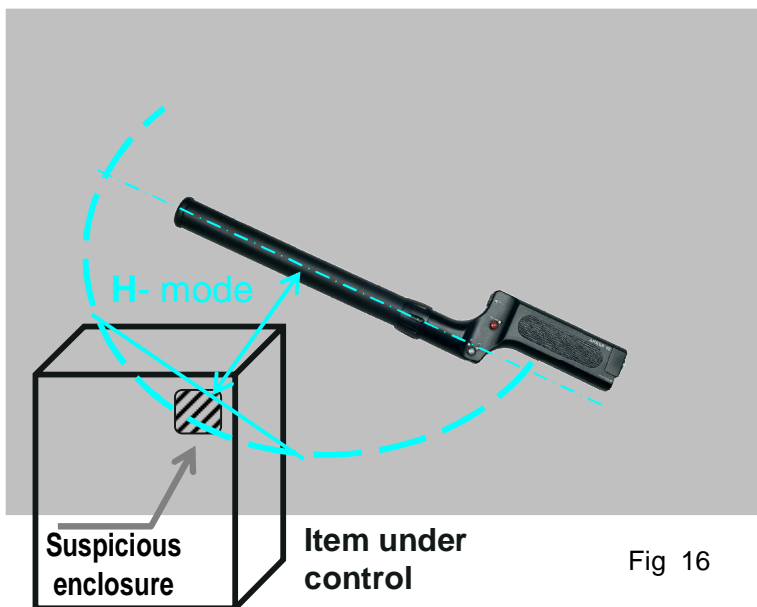

Fig 16
8. Place antenna unit of the **Detector** parallel to 'E' mark on the Imitator body (Fig.16).